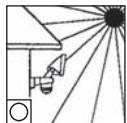

Fig. 16
- Do not aim the sensor toward lights of any kind. (See Fig. 16, 17). Aim the sensor and light in a different direction.